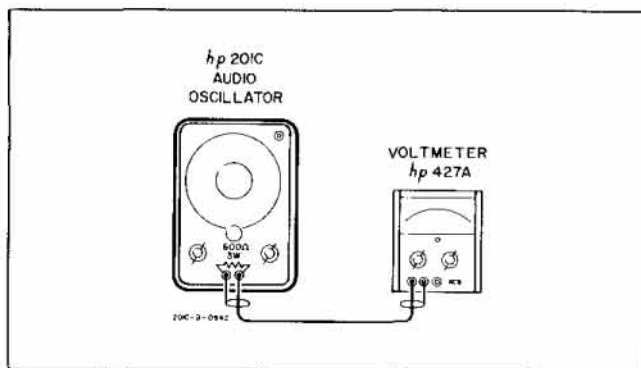

Figure 5-2. Frequency Response and Output Check
- a. Connect test setup as shown in Figure 5-2, including a 600 ohm load resistor across the output terminals of the Model 201C.
- Connect test setup as shown in Figure 5-2, using a 600 ohm 3 watt load resistor.
- a. Connect Model 201C as shown in Figure 5-2 and proceed as follows: